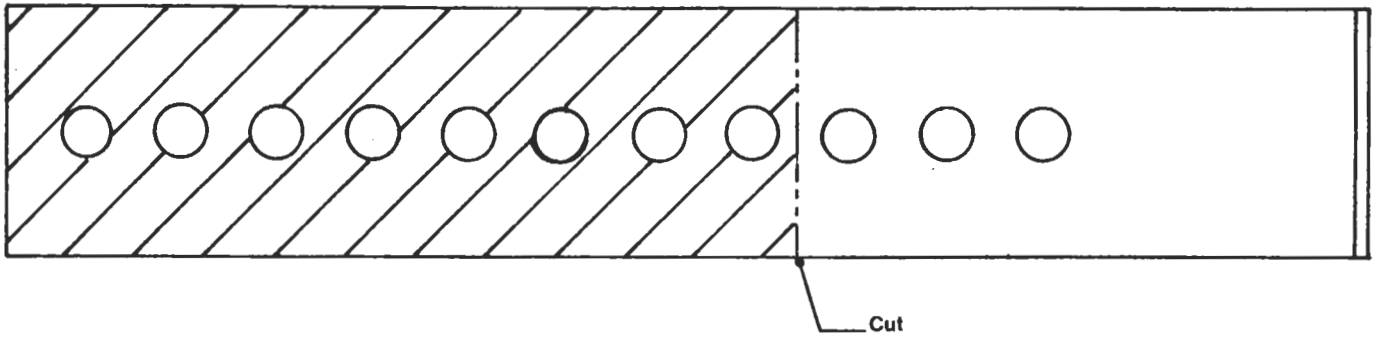

Fig. 7
1. To form brackets for mounting regulator use (Fig. 7) template. Refer to Owner's Manual on Regulator Installation for bracket attachment to regulator.